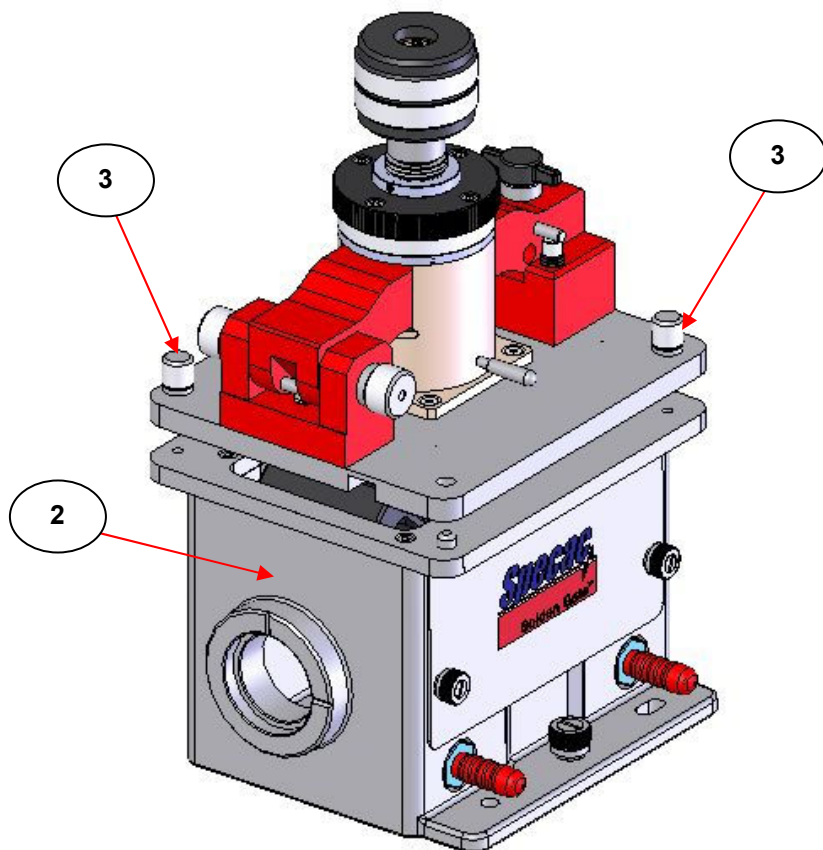

Fig 3. GS10660 Top Plate Fixing to Golden Gate™ Optical Unit
If the Heated Envirochamber Golden Gate™ ATR top plate has been purchased as P/N GS10660, as an alternative top plate to use for an existing Golden Gate™ ATR accessory, it attaches to the Golden Gate™ optical unit (2) by use of the two thumbs screws (3). (See Fig 3.)